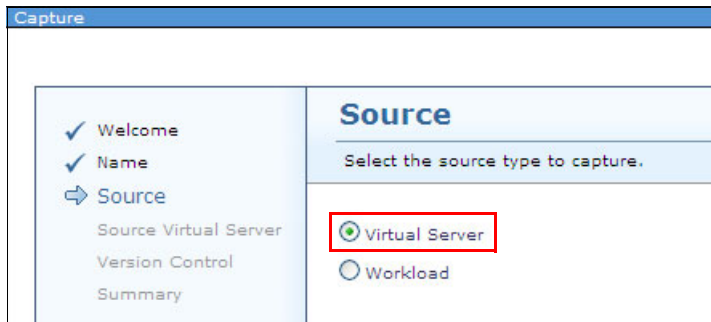

Figure 10-67 Capture: Source
3. Select the source type to capture, as shown in Figure 10-67. In this example, it is **Virtual Server**.